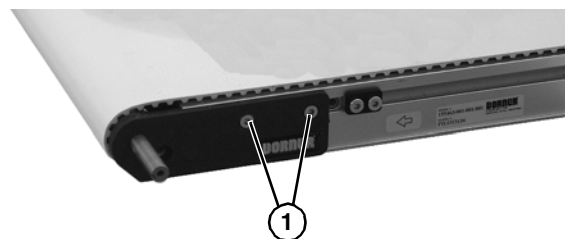

Figure 4
1. Remove two M6 screws (**Figure 4, item 1**) from output shaft side of conveyor.